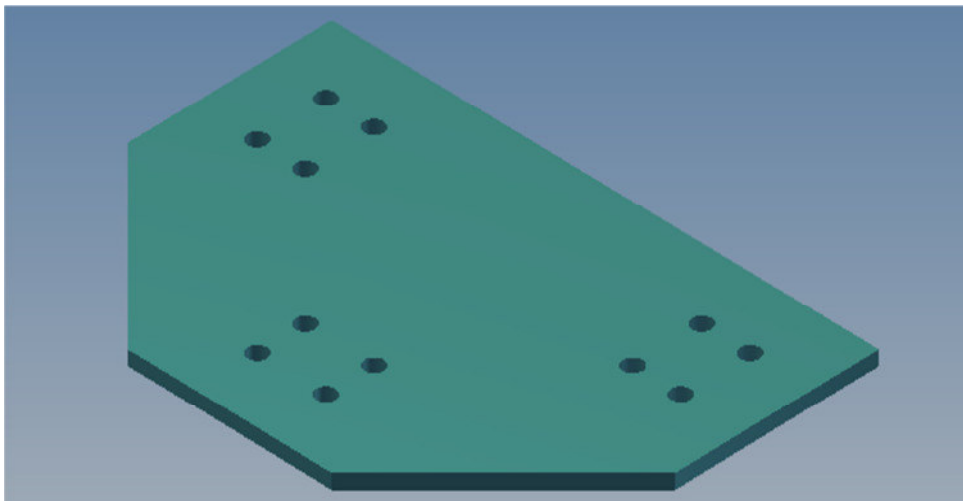
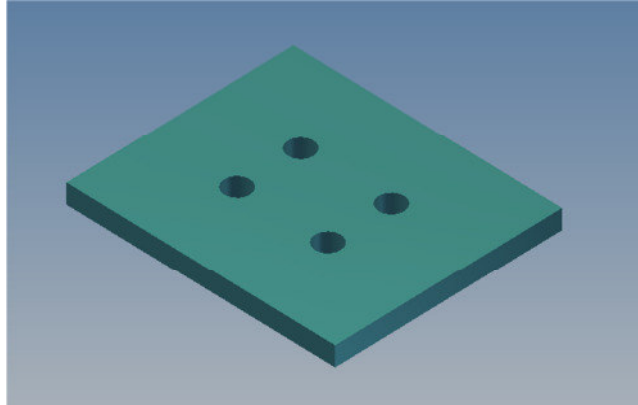

Fig. 4 T-connection
Fig. 5 Distance plate
- 3.2.4 Fixing of wall corners and T- joints by bolting with top wall corner joint (Fig. 4) resp. top T- Connecting joint (Fig. 5).